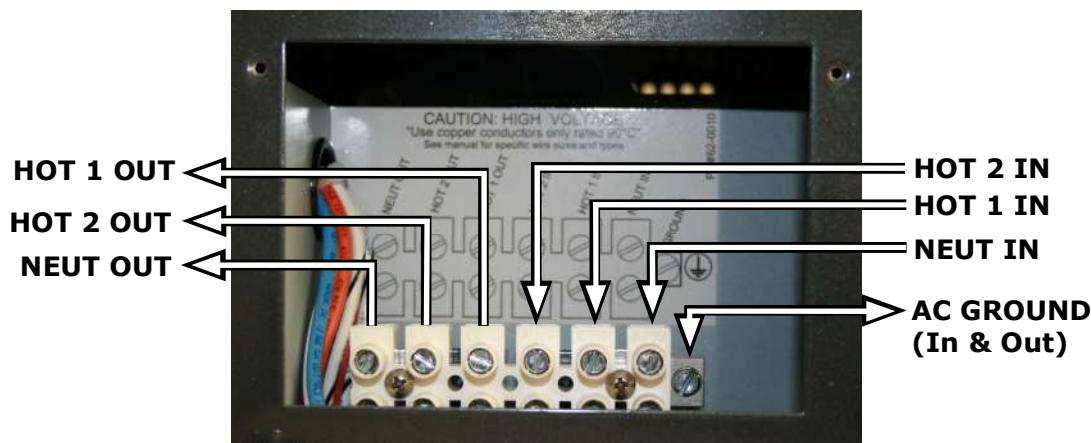

Figure 2-10, AC Terminal Block
1. Remove the two Phillips screws on the AC Access Cover (see Figure 1-3, Item 15) to access the internal AC Terminal Block (see Figure 2-10).
AC Side - Where the AC output from the inverter is connected to an AC load center, there should be an equipment grounding conductor connected between the inverter case and the grounding point in the AC load center. The AC Equipment Grounding Conductor (EGC – AC) is sized per Table 2-5 and is connected to the inverter's AC equipment grounding terminal shown in Figure 2-10.